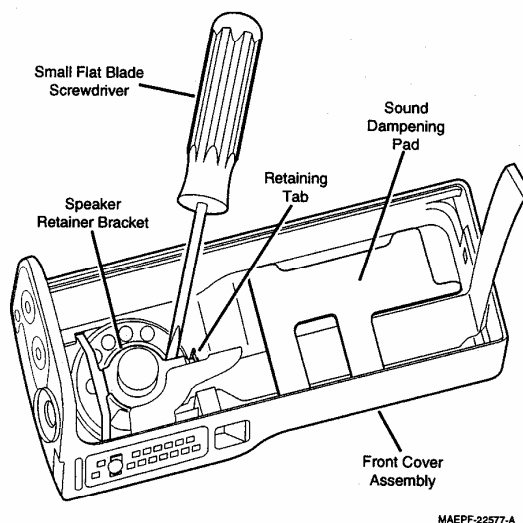

Figure 8
3. Remove the speaker retainer bracket, speaker, microphone, and front cover flex from the front cover housing (see figure 8).